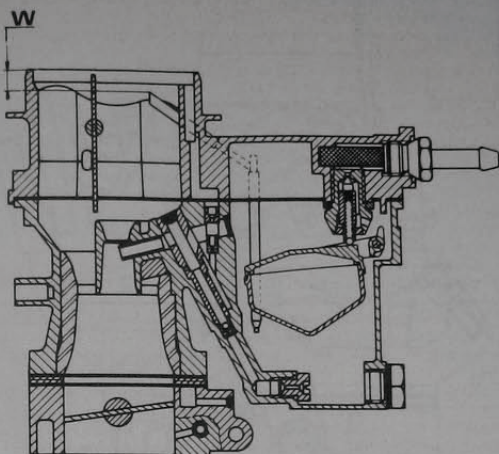

Fig. 3.11 Auxiliary jet tube setting – Zenith carburettor (Sec 17)
- 10 Measure the distance between the top of the carburettor venturi and the top of the tube (Fig. 3.11).